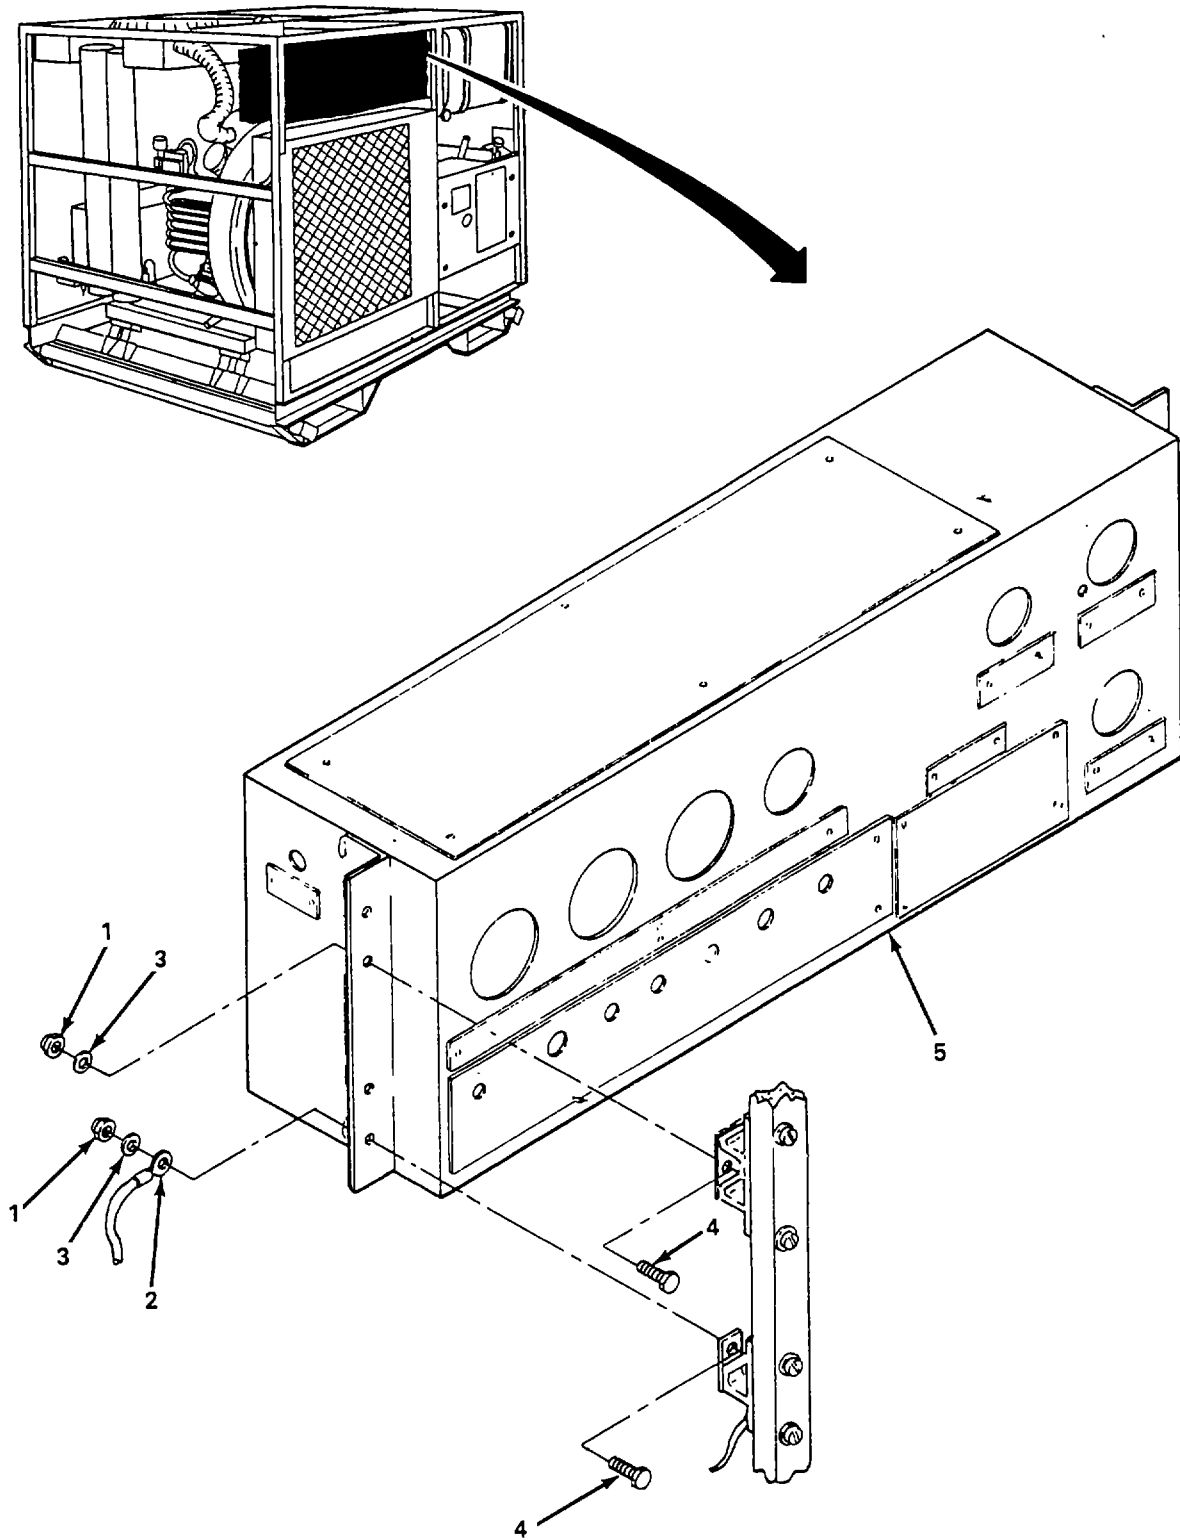

Figure 5-1. Control Panel, Replace.
a. Replace. (figure 5-1)
- (1) Remove four nuts (1), ground wire (2), washers (3), and bolts (4) and remove control panel (5).
- (2) Install control panel (5) and secure with four bolts (4), washers (3), ground wire (2), and nuts (1).